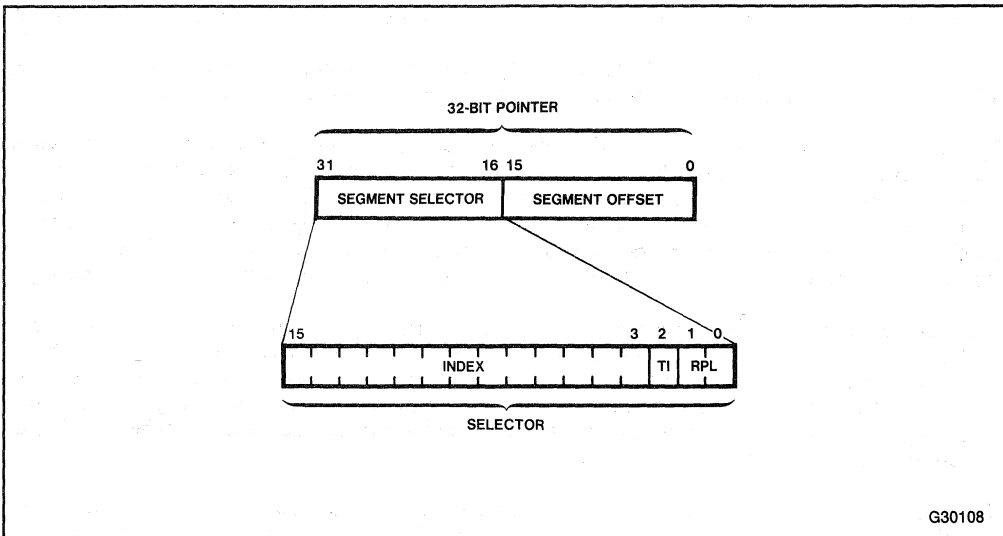

Figure 6-1. Format of the Segment Selector Component
In Protected Mode, application programs deal exclusively with virtual addresses; programs have no access whatsoever to the actual physical addresses generated by the processor. As discussed in Chapter 2, an address is specified by a program in terms of two components: (1) a 16-bit effective address offset that determines the displacement, in bytes, of a location within a segment; and (2) a 16-bit segment selector that uniquely references a particular segment. Jointly, these two components constitute a complete 32-bit address (pointer data type), as shown in figure 6-1.
An important difference between Real Address Mode and Protected Mode, however, concerns the actual format and information content of segment selectors. In Real Address Mode, as with the 8086 and other processors in the 8086 family, a 16-bit selector is merely the upper bits of a segment's physical base address. By contrast, segment selectors in Protected Mode follow an entirely different format, as illustrated by figure 6-1.
Two of the selector bits, designated as the RPL field in figure 6-1, are not actually involved in the selection and specification of segments; their use is discussed in Chapter 7.
The TI bit in the segment selector (see figure 6-1) determines which of two descriptor tables, either the GDT or the current LDT, is to be chosen for memory mapping. In either case, using the GDTR or LDTR register, the processor can readily determine the physical base address of the memory-resident table.